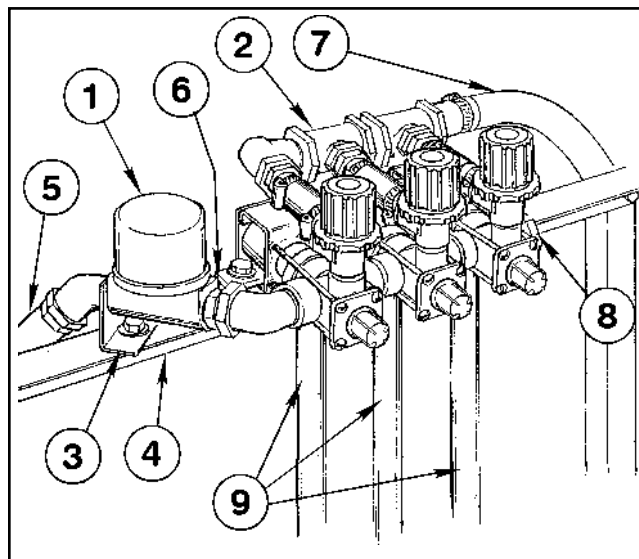

FIG. 9
2. Loosely attach the Control Valve Bracket to the Cross Support with a 5/16" x 3/4" cap screw, flat washer and nut. See FIG. 9.
3. Slide the Solenoid Mounting Strap into position and mount the complete Control Valve and Solenoid Assembly to the Cross Support as shown in FIG. 9. Use four 5/16" x 1" hex hd cap screws with four washers placed below the screw heads, two between the strap and the Cross Support and four below the Cross Support under the nuts.